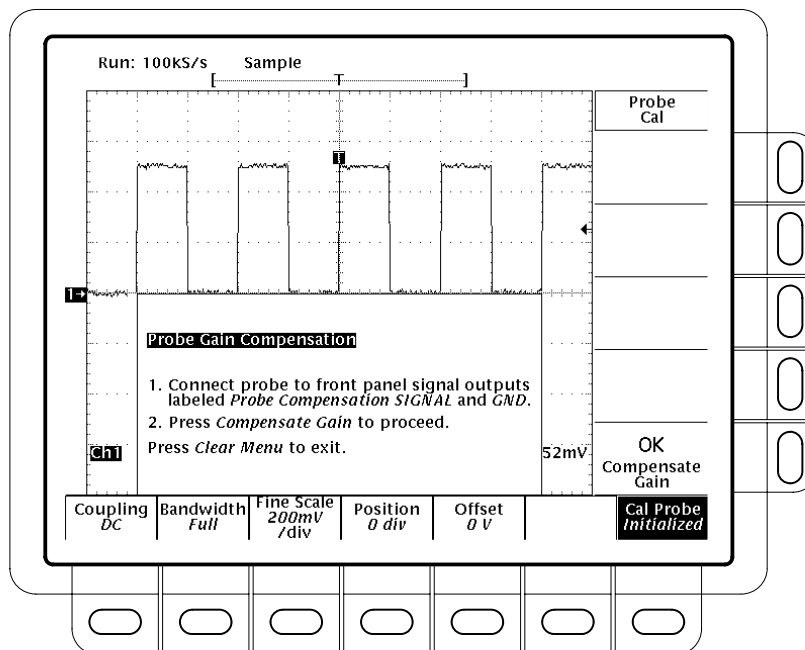

Figure 3-44: Probe Cal Menu and Gain Compensation Display
18. After the clock icon is removed, verify the word **Initialized** changed to **Pass** under **Cal Probe** in the main menu. (See Figure 3-44.)